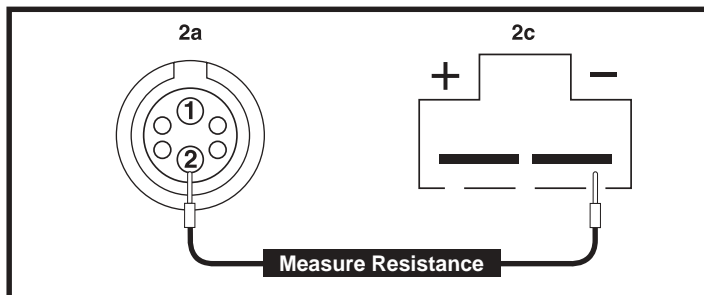
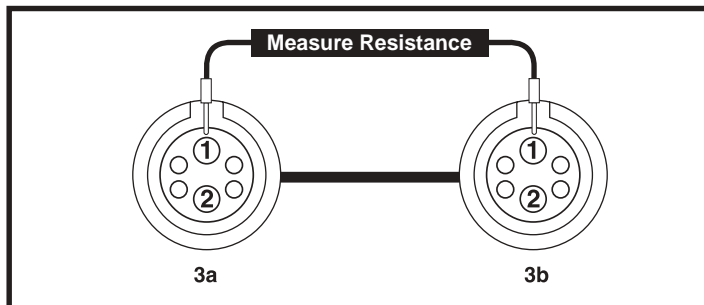

Figure 29. Connectors 2a and 2c
Figure 30. Connectors 3a and 3b
18. Measure resistance from pin 2 on connector 2c to pin 2 on connector 2a. **See figure 29.**
- If your multimeter indicates greater than 1 ohm for either test, then replace the power module (2) and retest the system.
19. Measure resistance from pin 1 on connector 3a to pin 1 on connector 3b. **See figure 30.**